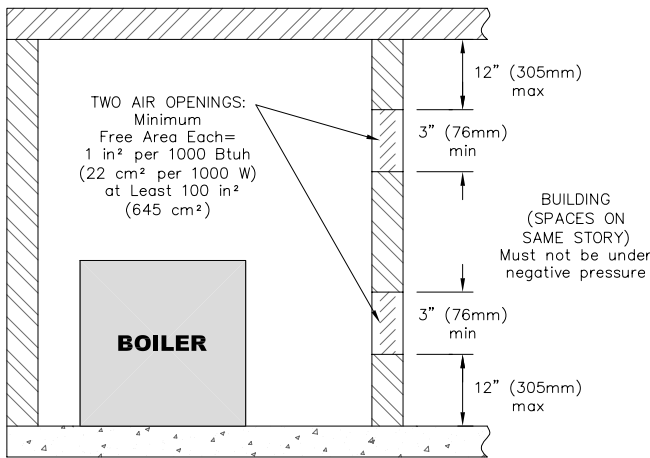

Figure 1.1: Air Openings – All Air from Indoors on the Same Floor
- a. **Combining spaces on the same floor**: Provide two permanent openings communicating with additional spaces that have a minimum free area of 1 in² per 1000 Btu/hr (22 cm² per 1000 W) of the total input rating of all gas fired equipment but not less than 100 in² (645 cm²). One opening is to begin within 12 inches (305 mm) from the top of the space and the other is to begin within 12 inches (305 mm) from the floor. The minimum dimension of either of these openings shall be 3 inches (76 mm). See Figure 1.1 for an illustration of this arrangement.